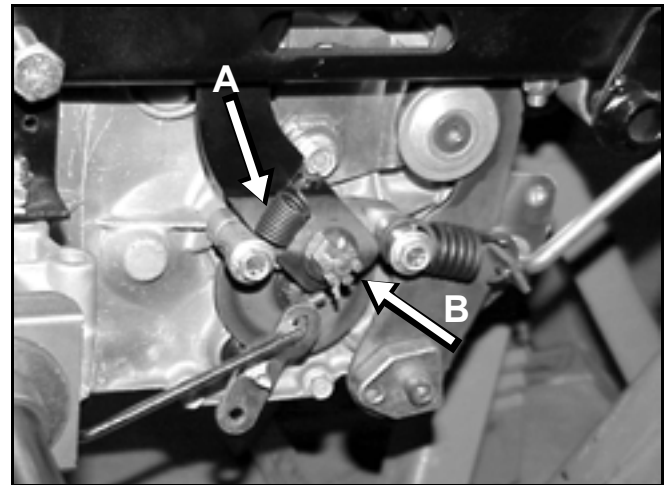

Figure 140 MVC-0017
3. Remove the brake return spring (Figure 140).
4. Remove the cotter pin securing the brake adjusting nut and slightly loosen the nut (Figure 140).